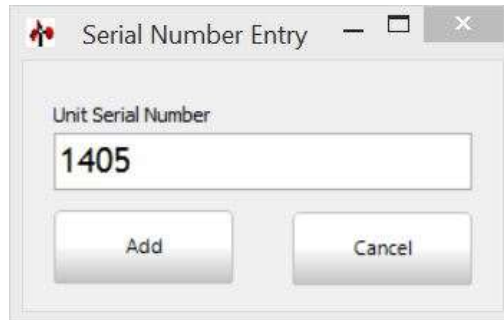

Figure 8
- Click the  button, the Serial Number Entry window will be displayed (**Figure 8**)